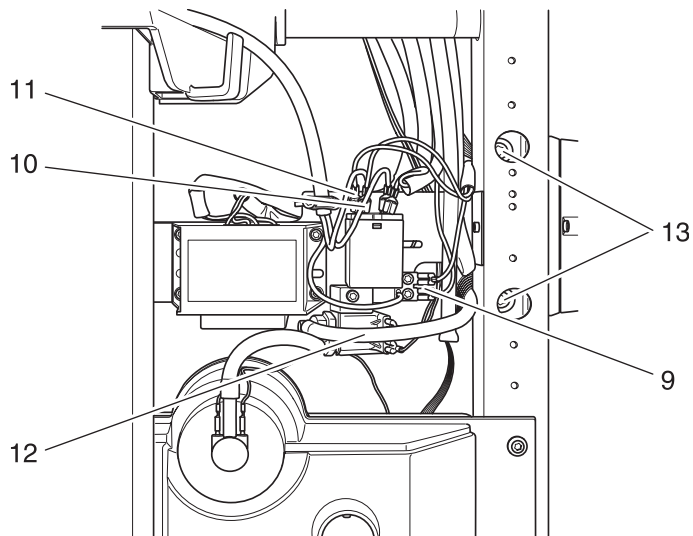

Fig. 7c
- Disconnect plugs 9 to 11 from the control panel board (fig. 7c).